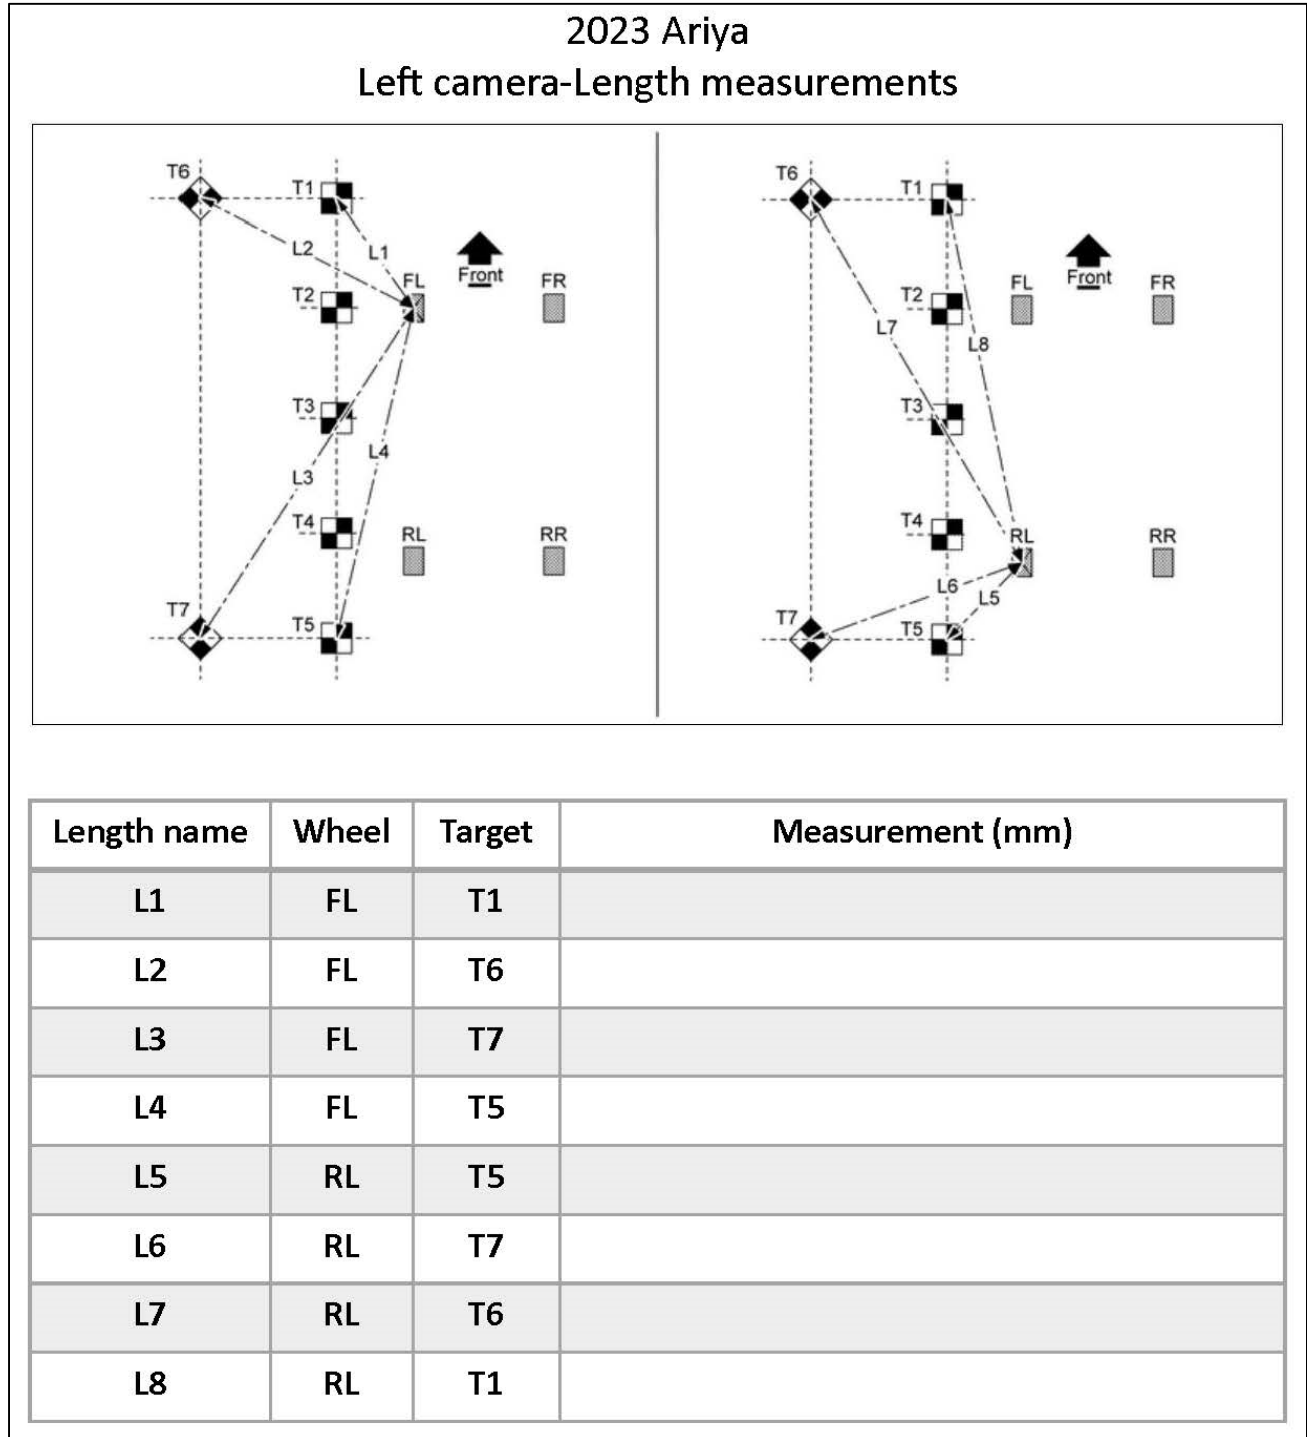

Figure 47
34. Measure the distance between the wheel center point and the center of the calibration targets T1, T6, T7, and T5, as shown in Figure 47 below.
IMPORTANT: All measurements must be in millimeters (mm). Refer to the illustrations in Figure 47 to ensure the correct measurement is documented in the correct order and for each calibration target.